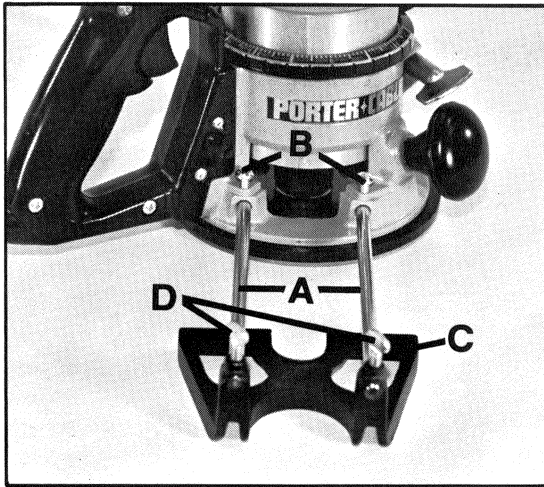

Fig. 11
To assemble, insert Guide Rods (A) in holes in base, Fig. 11 and secure with screws (B). The Guide (C) is adjusted on the rods and secured in desired position with Thumb Screws (D).